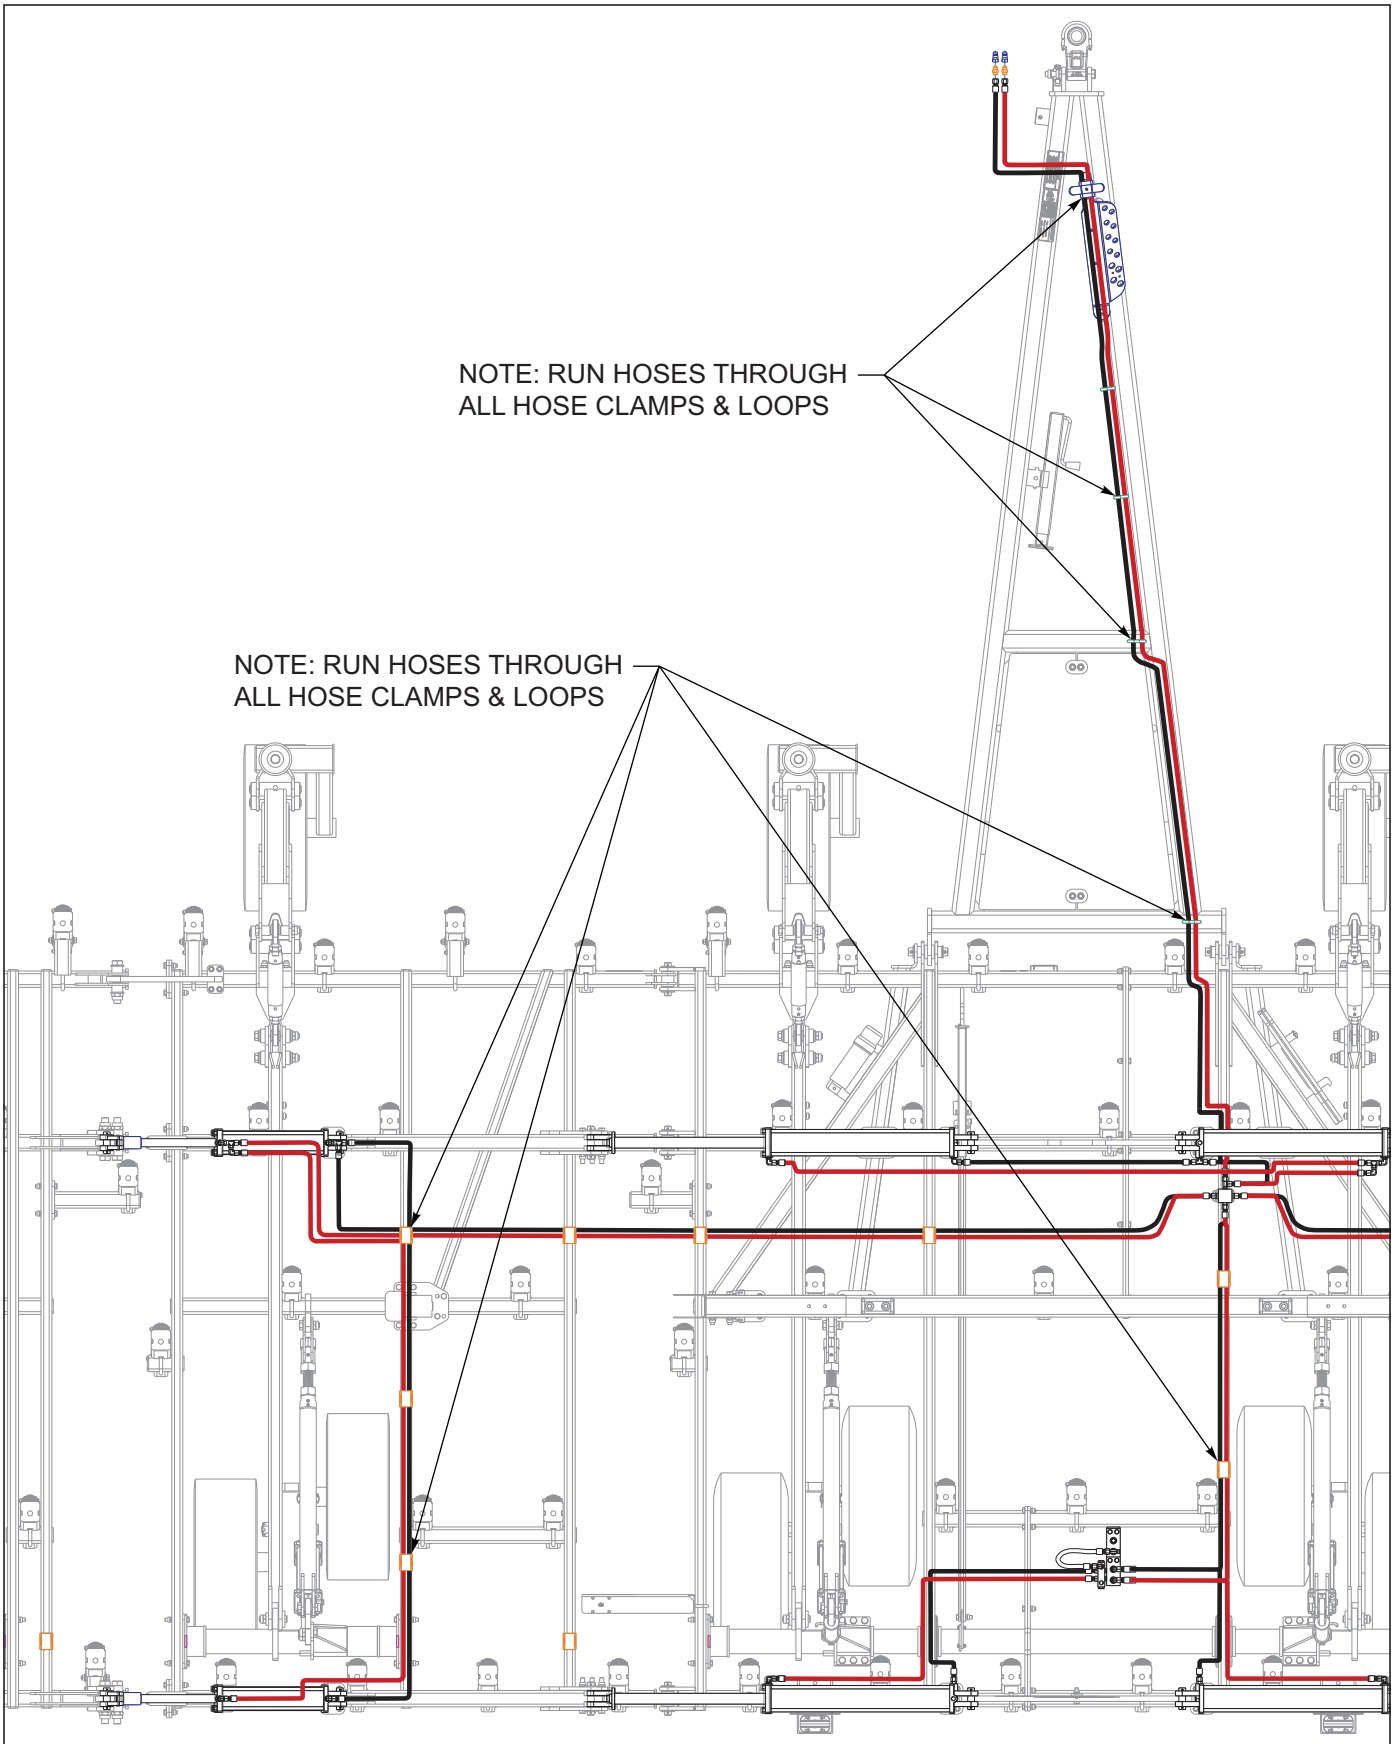
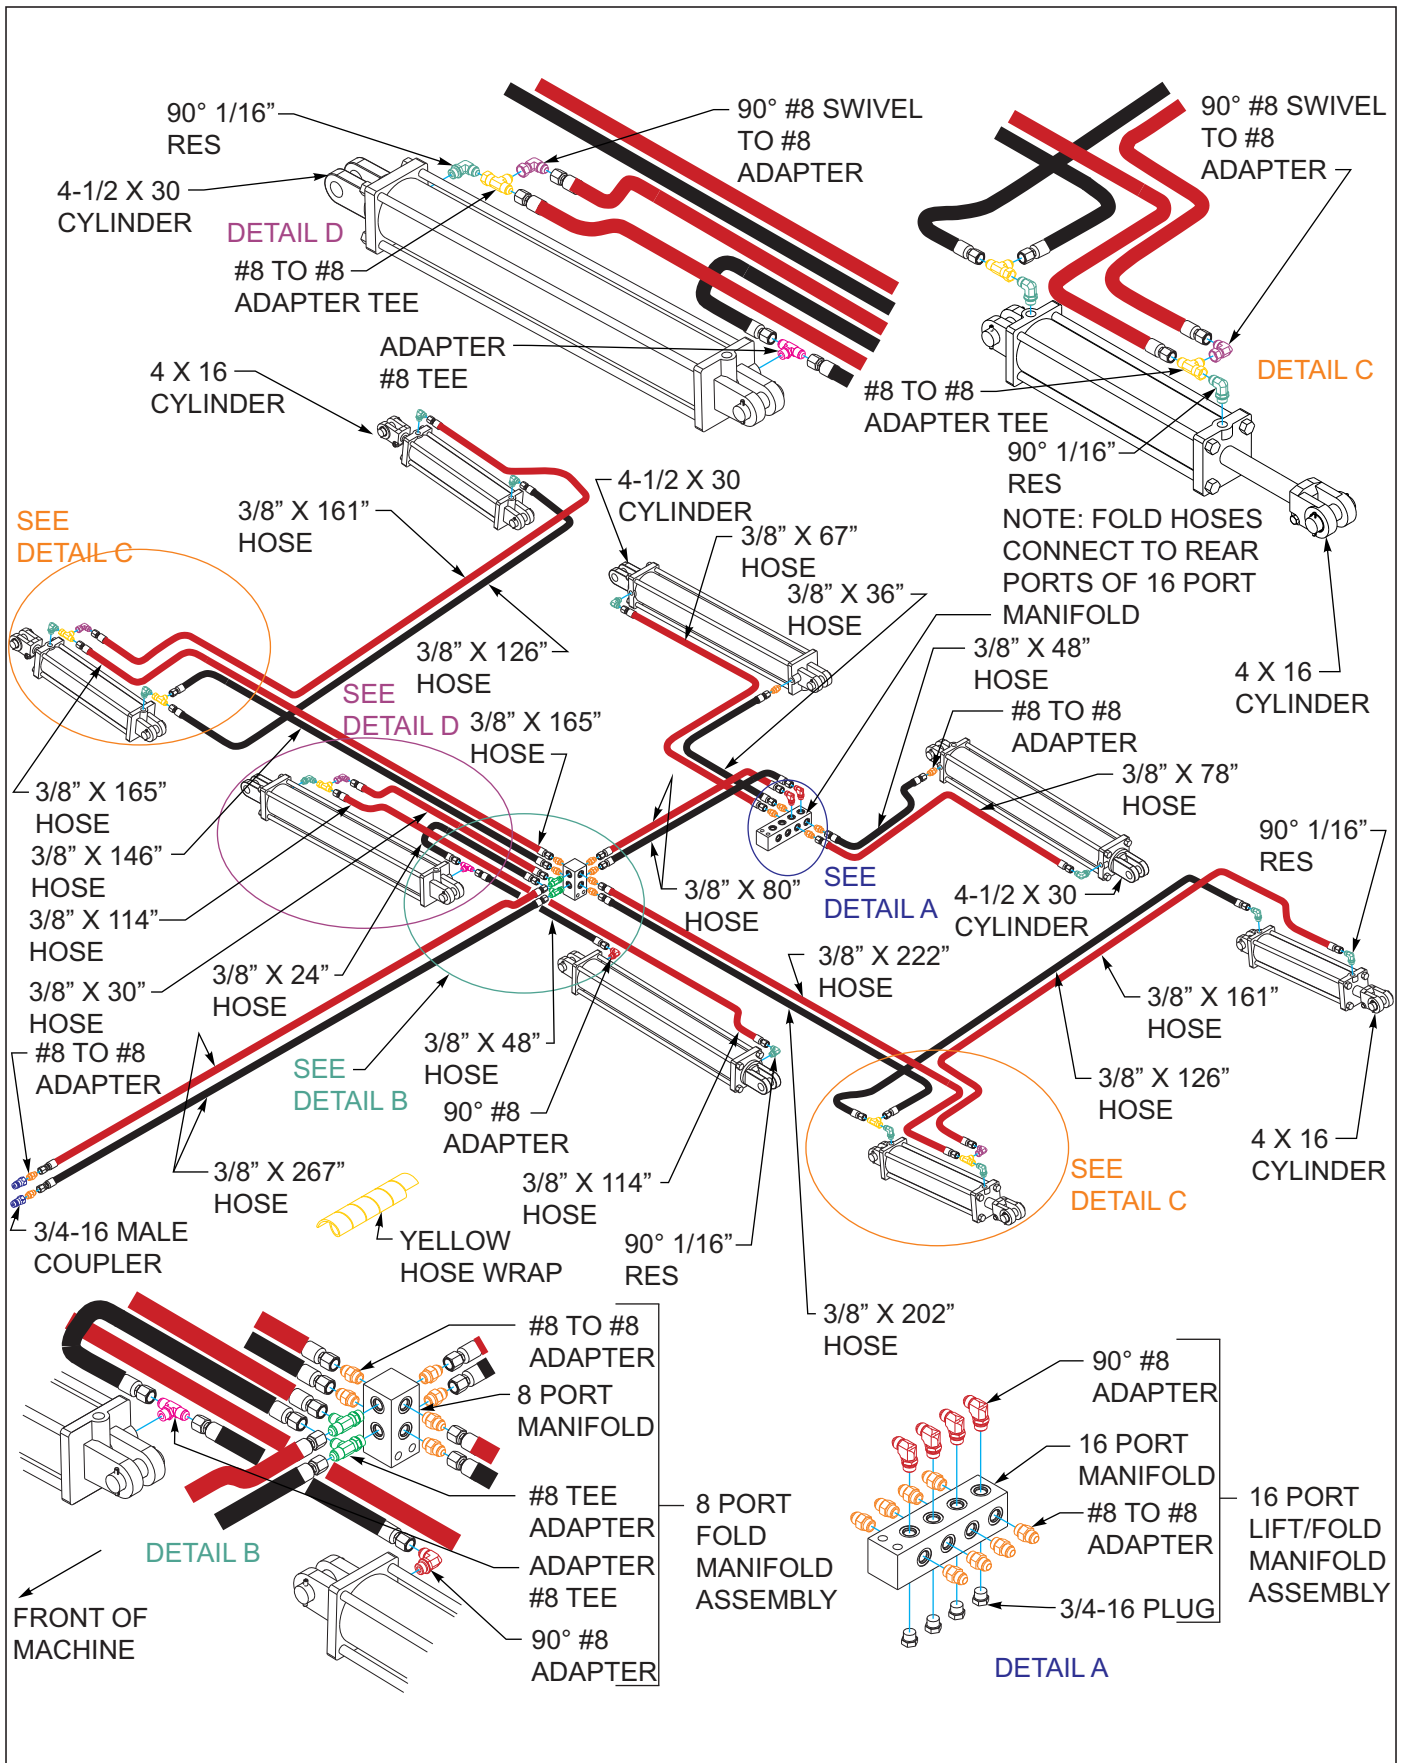

Figure 3-15: Hydraulic Fold Layout 9650FH-38' - 42' LH
Figure 3-20: Hydraulic Fold Installation 9650FH-46' - 50'
10. Install fold system hoses per **Figure 3-15 (9650-38 and 9650-42) or Figure 3-20 (9650-46 and 9650-50.)** Wrap fold system hoses with yellow hose wrap.